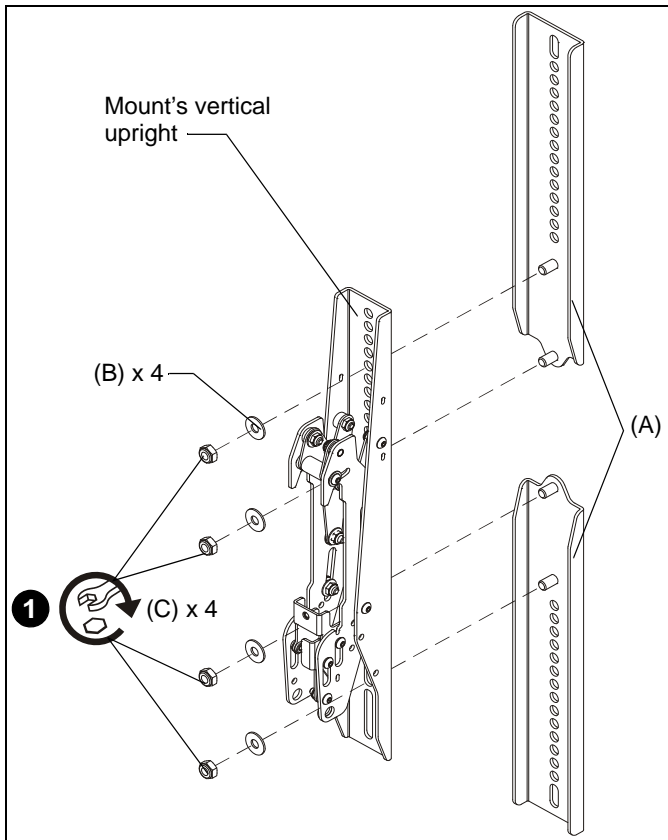

Figure 1
1. Attach the adapters (A) to the top and bottom of the mount's static or tilt uprights using two 5/16" washers (B) and two 5/16" hex nuts (C) on each adapter. (See Figure 1)